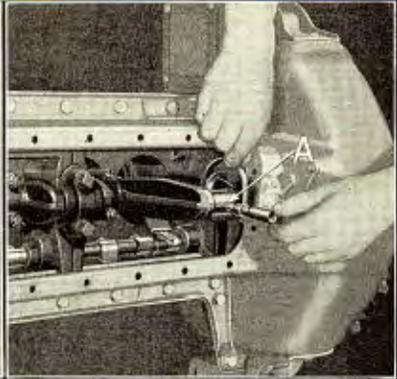
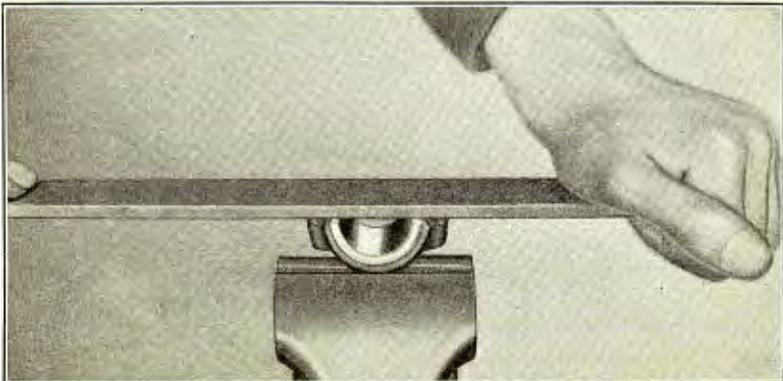

Fig. 231
Fig. 232
- 384** Check pin bearings on crankshaft with a micrometer to see that bearings are not out of round (See "A" Fig. 231). Take the measurement across several different points. If the crank pin shows more than .002" out of round, the shaft should be changed. If the shaft is O. K. and the babbitt in the rod and cap have not been damaged, the cap should be filed with a large mill file as shown in Fig. 232, filing about .002" from face of cap. (If the babbitt has been burned out, see Par. 389.) The repair man must exercise considerable care to hold the file squarely on the cap.